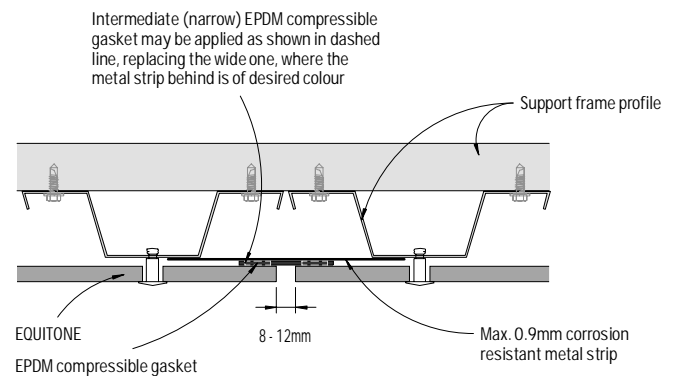

Figure 4: Vertical joint - Detail 2
- 2) In Figure 4 & 5, the metal strip should be fixed ONLY to one of the support frame profiles (either left or right) where allowance for horizontal and/or vertical movement of the cladding frame is required.